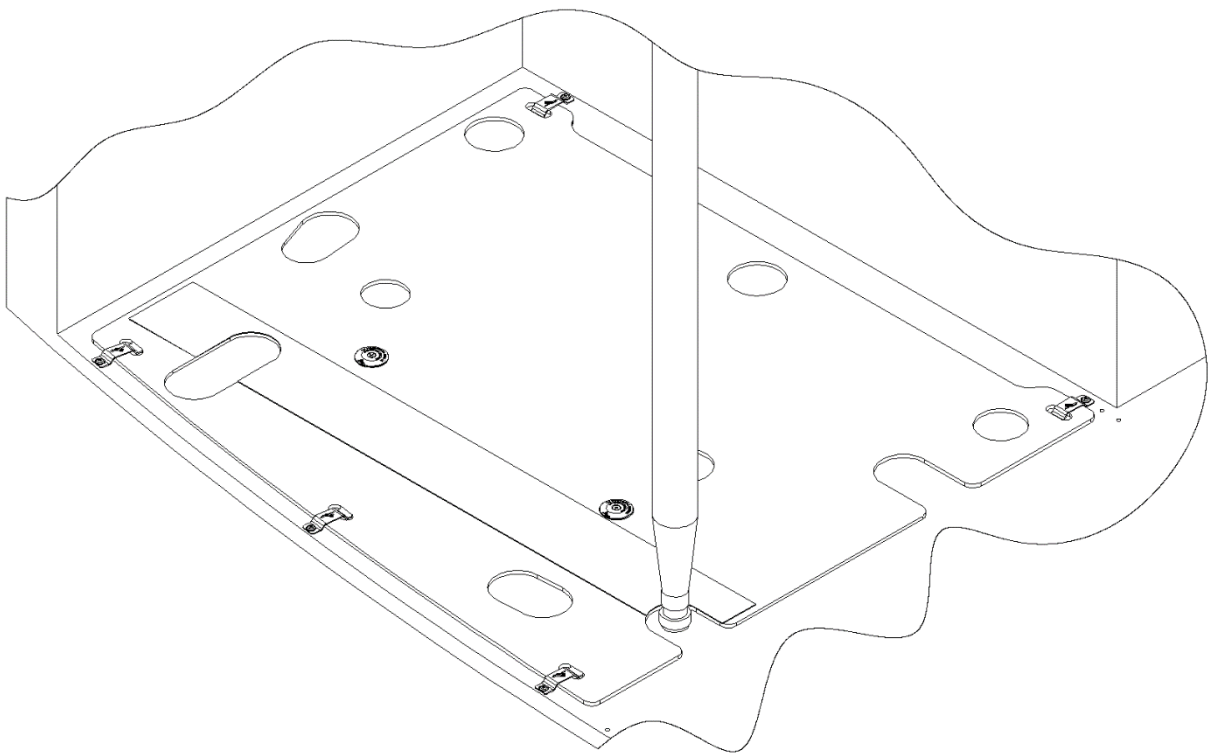

Figure 6
6. Placement of the Grip Tape is optional. Its location is approximate and can be placed to suite the individual operators needs. See Figure 6.